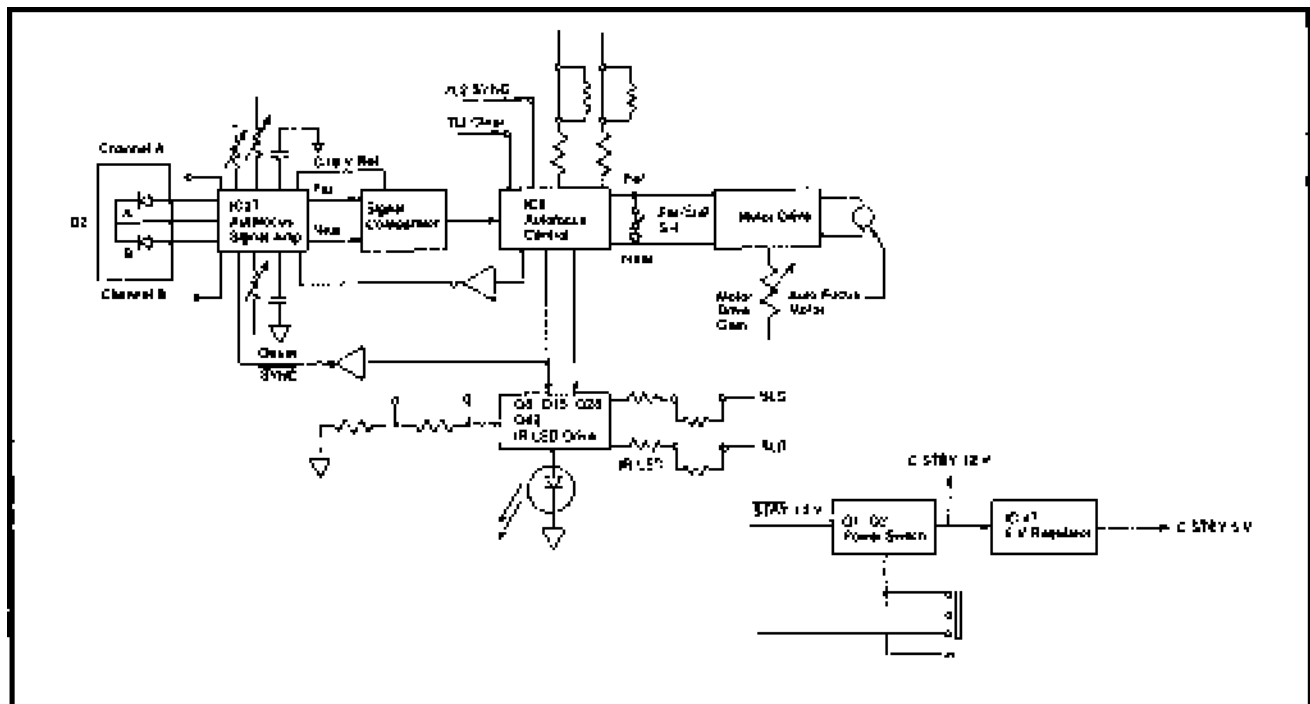

Figure 1: Typical autofocus control circuits
Figure 1 shows the typical autofocus control circuits. The autofocus control circuit is found in the lens assembly. The circuits use an infrared light (IR) projected through a lens to a full-reflection mirror and then reflected back to a dichroic mirror. The dichroic mirror passes the visible light (picture being shot) to the pick-up and reflects the IR light. The reflected IR is passed to an object, shot through a complex lens, and then reflected back from the object through a condensing lens to a sensor. The two IR sensitive photodiodes in the sensor produce a signal that adjusts the lens focus so that the reflected IR light is equal on both sensor photodiodes. This type of measuring is known as the delta measurement principle.